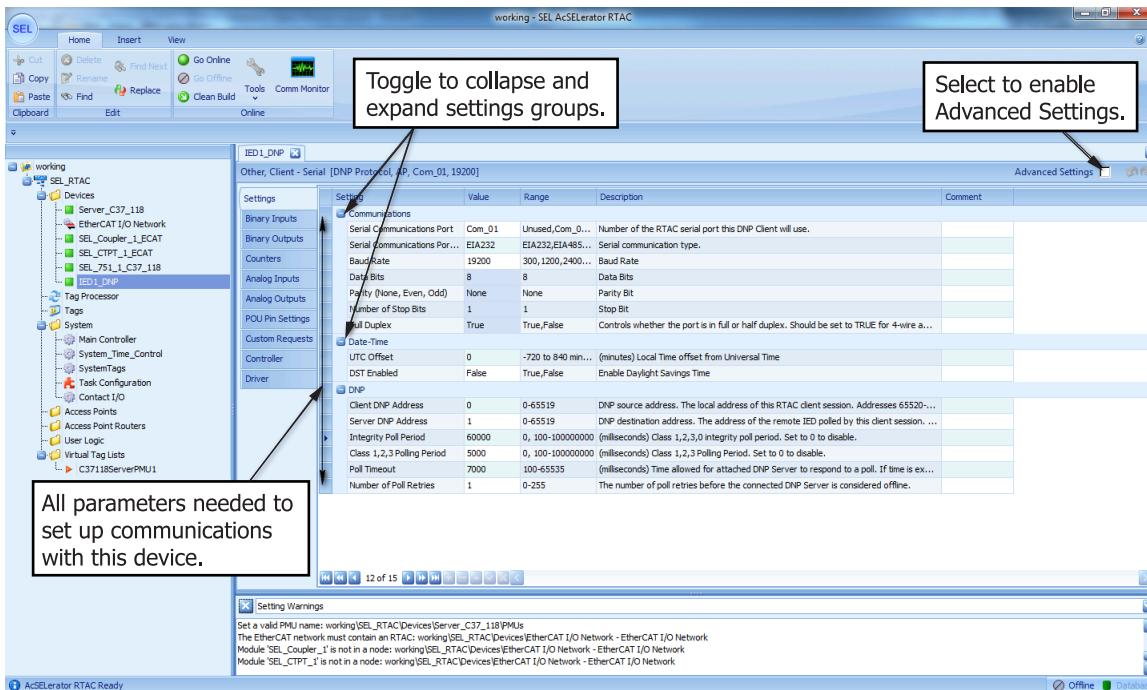

Figure 2.2 Example Serial Client Settings
Step 5. Configure the communications parameters of the connection in the grid view. See *Figure 2.2* as an example.